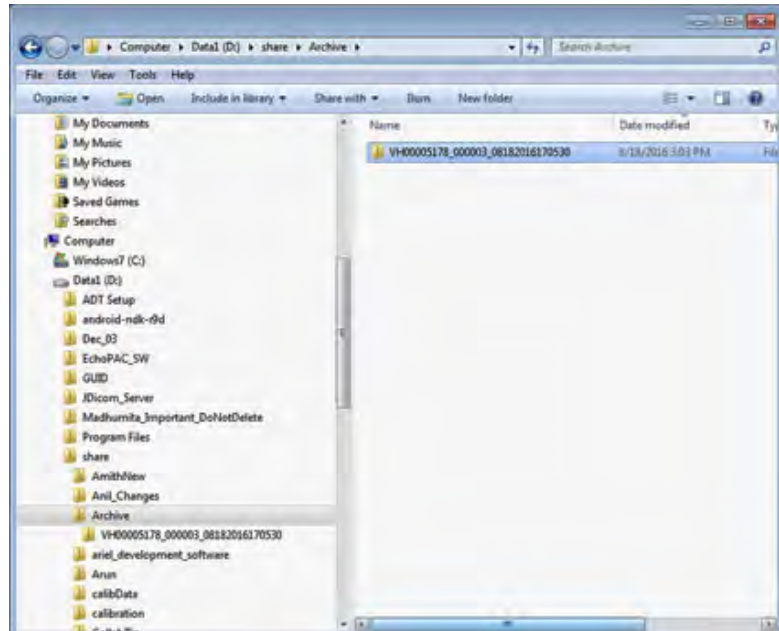

Figure 5-29. Exported image folder
- The exported folder is as shown in the Figure 5-29 below.